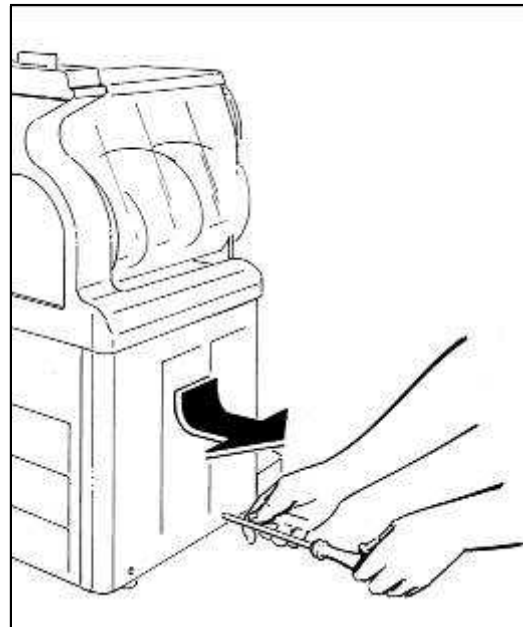

Рис. 42
-GT2 machine: remove the left side panel by unscrewing the two bolts fastening it (Рис.42);